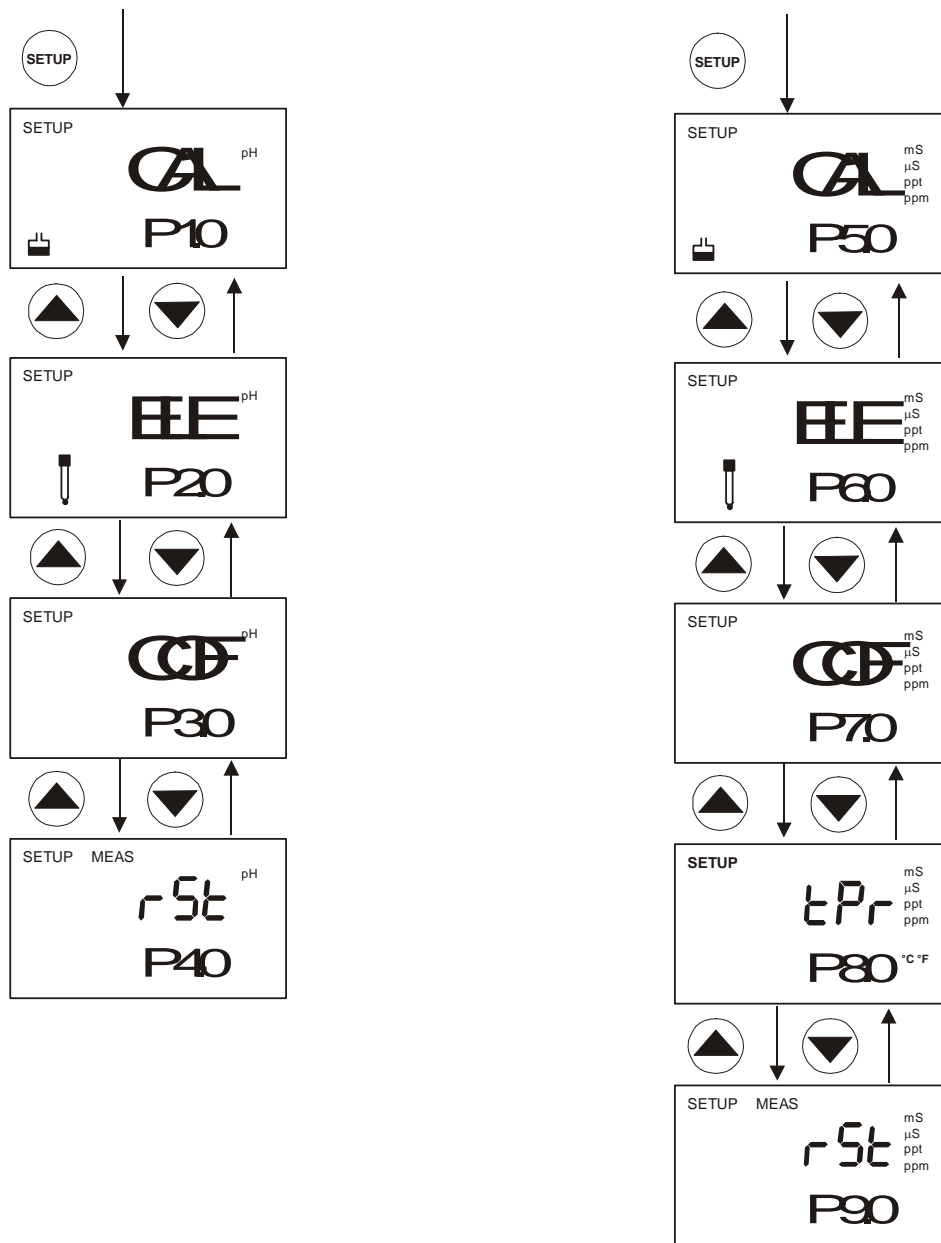

Figure 24: Overall view of SETUP programs for pH (on left) & conductivity/TDS (on right)
4. Press the ENTER key repeatedly to view previous calibration data. See Figure 24.